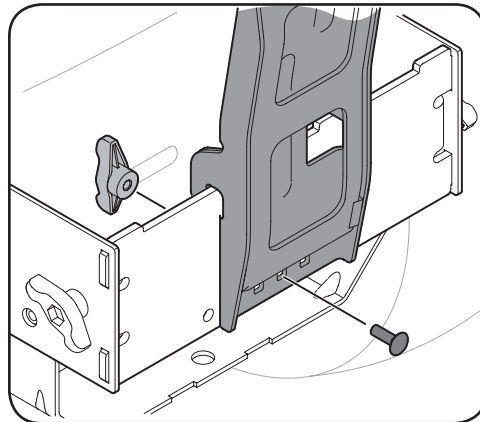

Figure 4-10
3. Secure the bag support assembly to the mounting assembly using a carriage bolt (710-0276) and wing knob (720-04122) from hardware pack 689-00328A. See Figure 4-10.